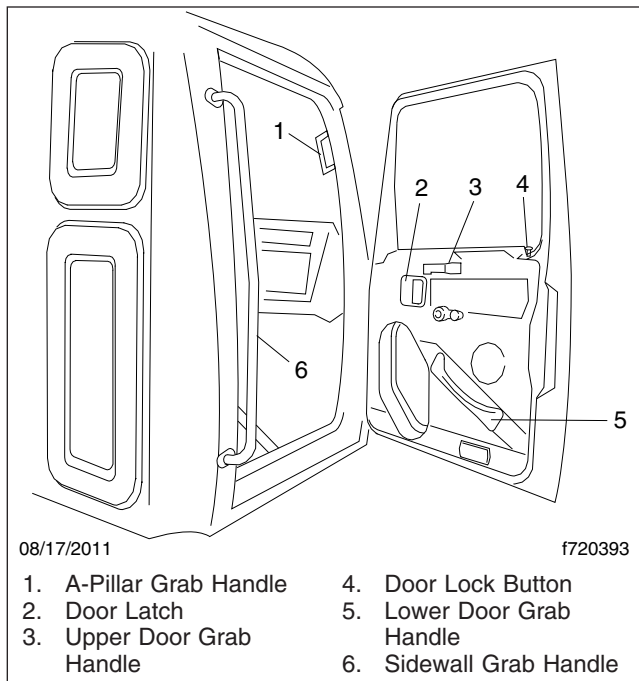
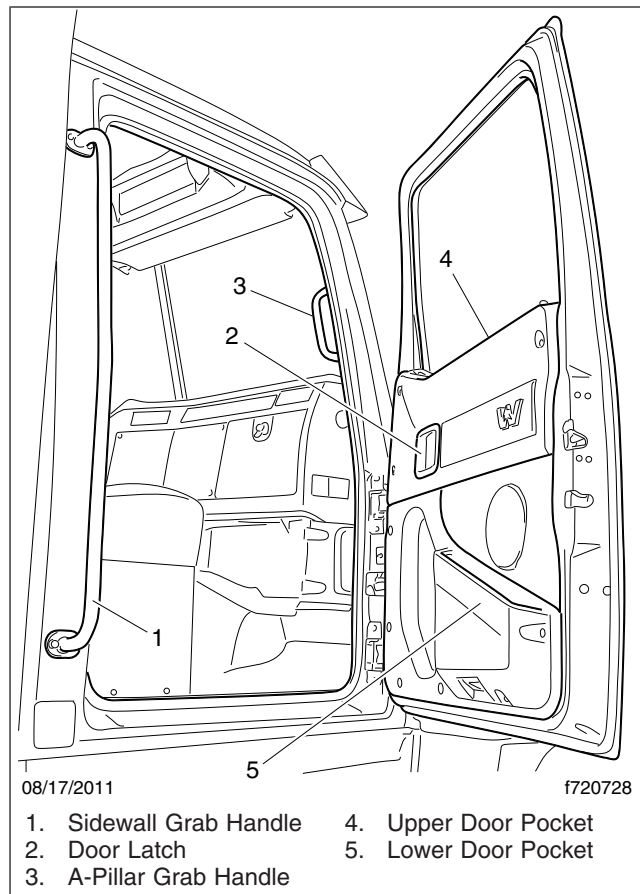

Fig. 2.6, Passenger-Side Cab Access (vehicles built before November 7, 2011)
Fig. 2.7, Passenger-Side Cab Access (vehicles built November 7, 2011 and later)
2. Grasp the sidewall grab handle with your left hand. See Fig. 2.6 or Fig. 2.7.
1. Grasp the A-pillar grab handle with both hands, then place your right foot on the top step while facing inward. See Fig. 2.6 or Fig. 2.7.